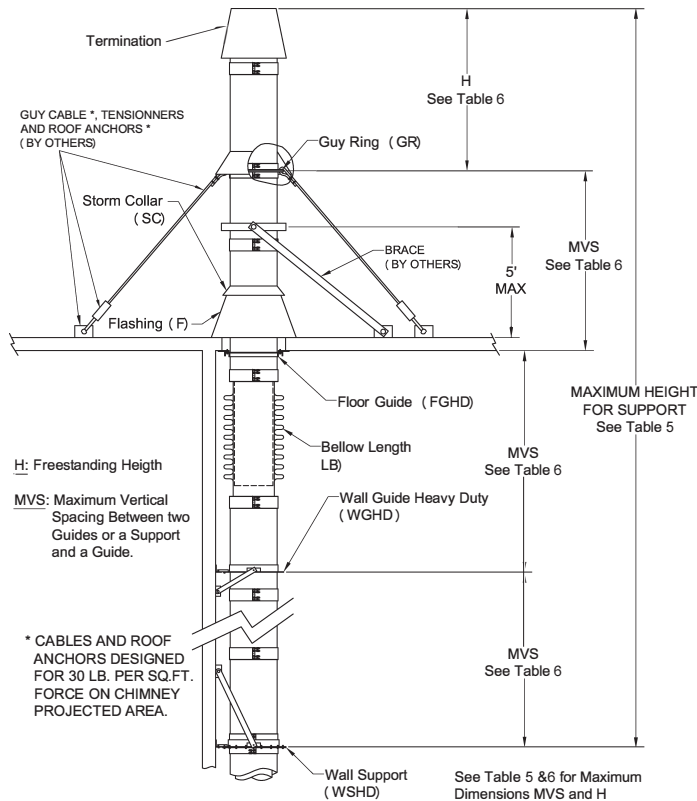

Figure 3 - Maximum Supported Height
- Supports and guiding methods and installation are described in **SECTION E-SUPPORTS**. Certain limitations apply for proper installation of supports and guides. **See Tables 5, 6, 7 and Figures 3 and 4.**
1. Proper guying and bracing is essential for part of the chimney that extends above the roof or parapet wall. The chimney at this point is subject to wind conditions and needs special attention for proper stabilization. **See Figure 3.**